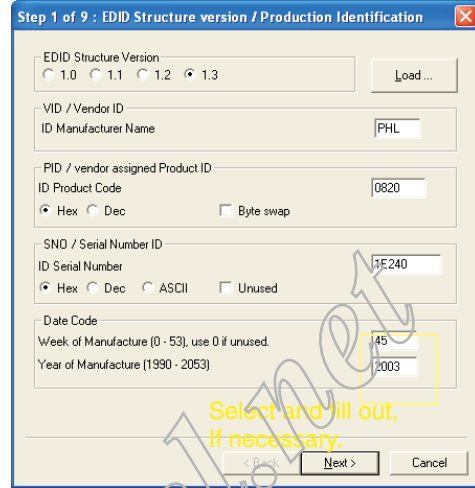

Fig. 14
- Click (new function) icon from the tool bar, bring up Step 1 of 9 as shown in Fig. 14. EDID46 DDC application provides the function selection and text change (select & fill out) from Step 1 to Step 9.